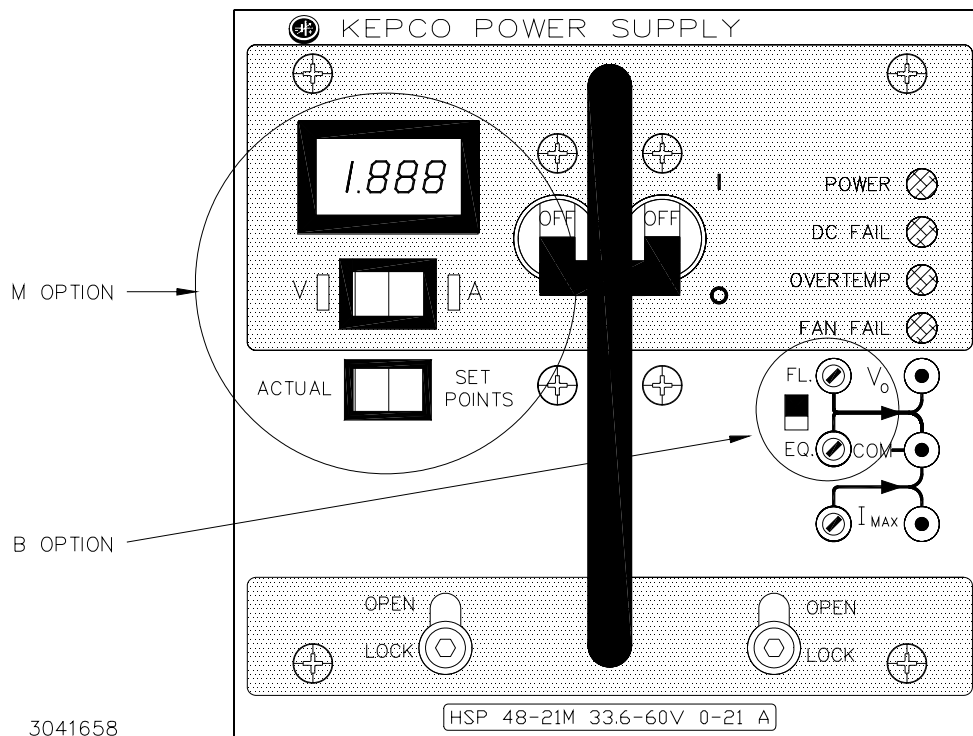

FIGURE 3-7. HSP M (METER) OPTION AND B (BATTERY CHARGER) OPTION, FRONT PANEL
HSP series power supplies are available with a meter option ('M' suffix) which incorporates a 3½ digit LED meter display on the front panel. The meter provides both voltmeter and ammeter functions. The V-A rocker switch directly below the meter (Figure 3-7) selects either output voltage (V) or module current (A) as the normally-displayed parameter. The associated LED, either V or A, lights to show the selected switch position. When depressed, the ACTUAL/SETPOINTS momentary-contact switch located below the V-A selector switch causes the meter to display the programmed value of output voltage or current limit, as selected by the V-A switch. The
When the Float-Equalize switch is set to FL (see Figure 3-7), the Float potentiometer adjusts the output voltage; when set to EQ, the Equalize potentiometer adjusts the output voltage. The FL-EQ position also determines which voltage is available at test point V_o . CAUTION: Adjusting the non-selected potentiometer (e.g., FL potentiometer with switch set to EQ) can have adverse effects, because an unknown output voltage will be applied to the load when the switch position is changed. The fault detector window is altered to accommodate the normal range of battery voltage from fully discharged to peak equalize charge as shown in Table 3-3.: